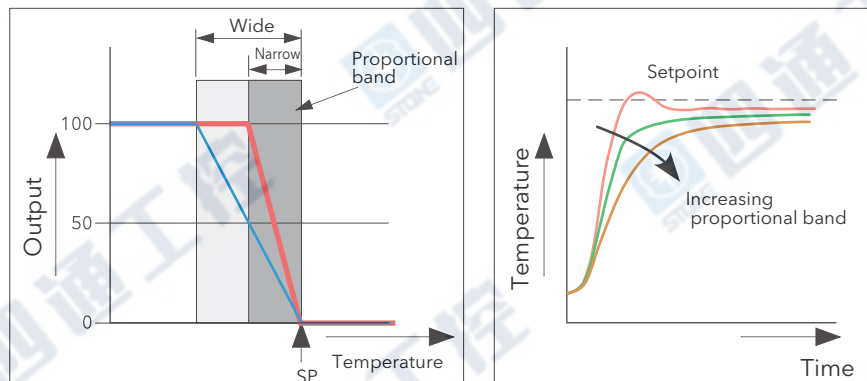

Figure B2.2.2a Proportional band action (reverse acting)
The proportional band (PB) delivers an output which is proportional to the size of the error signal. It is the range over which the output power is continuously adjustable in a linear fashion from 0% to 100% (for a heat only controller). Below the proportional band the output is full on (100%), above the proportional band the output is full off (0%) as shown in figure B2.2.2a.
Figure B2.2.2a also shows the effect of narrowing proportional band to the point of oscillation. A wide proportional band results in straight line control but with an appreciable initial error between setpoint and actual temperature. As the band is narrowed the temperature gets closer to setpoint until eventually, it becomes unstable.